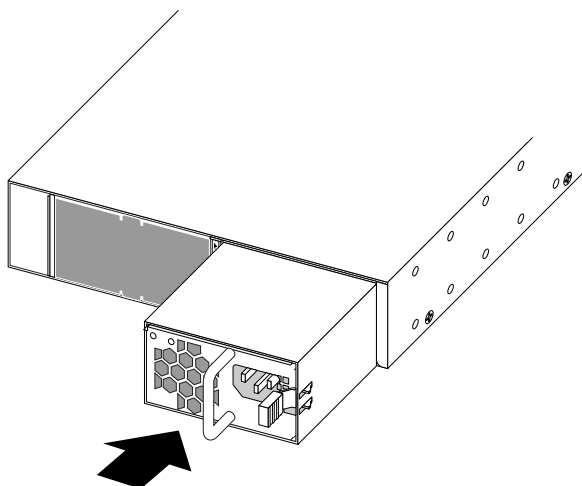

Figure 271: Installing A Summit 350 W or 715 W AC Power Supply
6. Carefully slide the power supply all the way into the power supply bay, as shown in Figure 271.